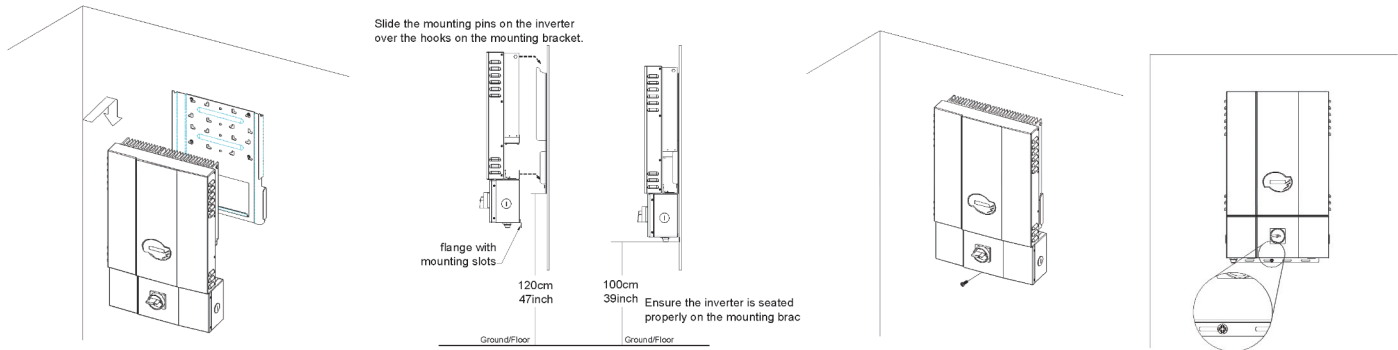

Fig. 2.2.4 Hook the Inverter on the mounting bracket and then fasten the screw
3. Once the mounting bracket is attached to the wall, the inverter can be located and fastened to the mounting bracket. Slide the inverter over the mounting bracket flanges and down carefully to lock it in place. Attach the screw through the hole as shown in figure 2.2.4 below, used to fasten both inverter and the wiring box together to the mounting bracket.